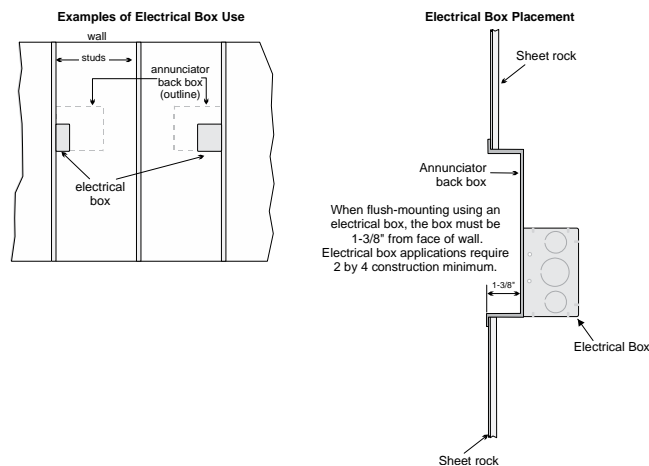

Figure 4.23 Placement of Electrical Box for Flush Mounting
1. Cut a hole in the sheet rock to the following dimensions: 8-1/4" W x 6-5/8" H. If an electrical box is used, the box must be 1-3/8" back from face of wall to accommodate the annunciator (see Figure 4.23).